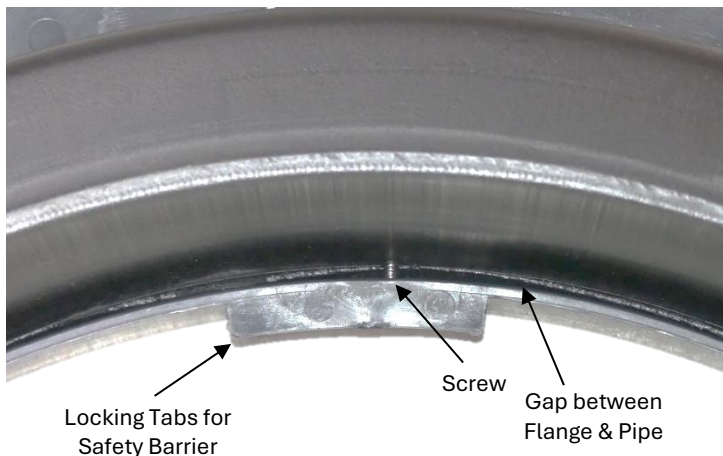
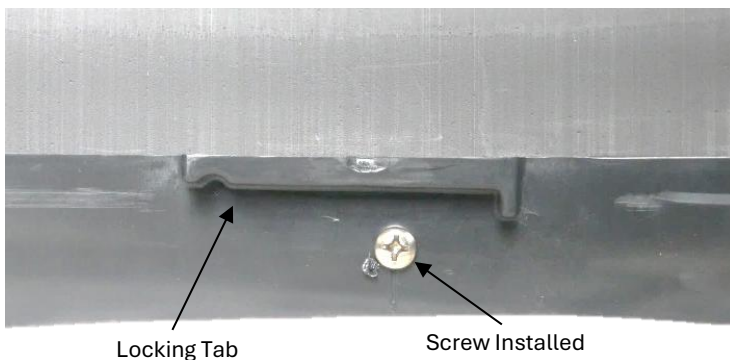
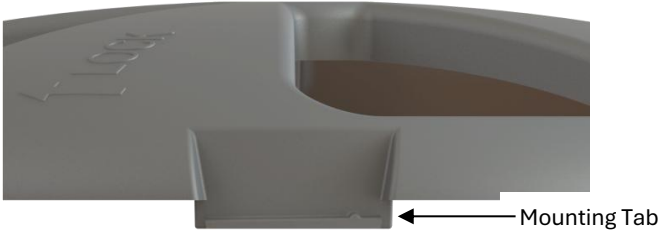
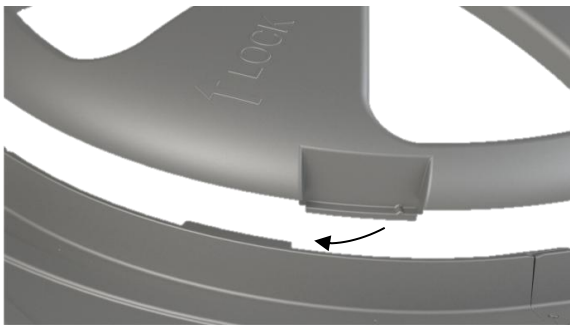

Figure 7: Screw installed (Top down view)
Figure 8: Screw installed (side view)
Figure 9: Locate Mounting Tab
Figure 10: Installing Safety Barrier
- 6.) Install four (4) provided #12 x 3/4" screws into mounting dimples to attach the base flange to the riser pipe. Drive the screws until the head makes contact with the base flange & slightly compresses the flange (Fig 7.) & (Fig 8). There should be a visible gap (approximately 1/2") all around, between base flange & pipe once installed. OPTIONAL: Mounting dimples can be pre-drilled with 1/8" bit to facilitate screw installation.
- 7.) **Locate the four mounting tabs on the safety barrier (Fig. 9). Insert the safety barrier into the locking tabs on base flange (Fig 8), (Fig. 9) & (Fig. 10). Barrier mounting tabs may require individual adjustment and alignment while seating the barrier onto flange. Note the barrier can bend slightly to accommodate for manufacturing tolerances. Once positioned, apply downward pressure to center of barrier.**